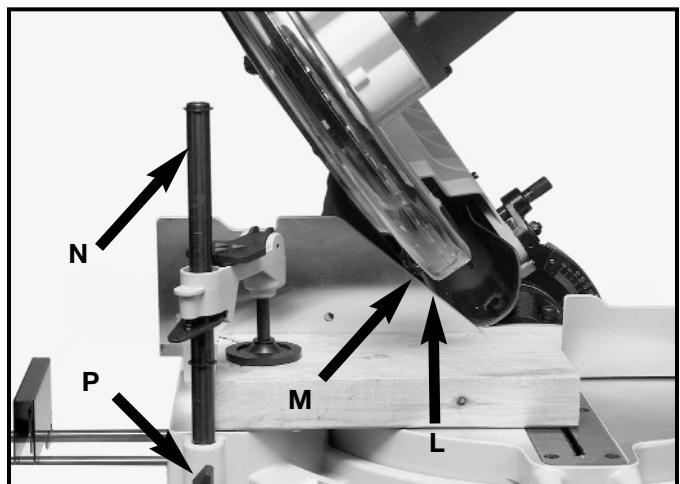

Fig. 21
WARNING MAKE SURE THAT FENCE (M) Fig. 21 AND WORK CLAMP (N) Fig. 21 ARE CLEAR OF GUARD AND BLADE (L) Fig. 21 BEFORE OPERATING SAW.